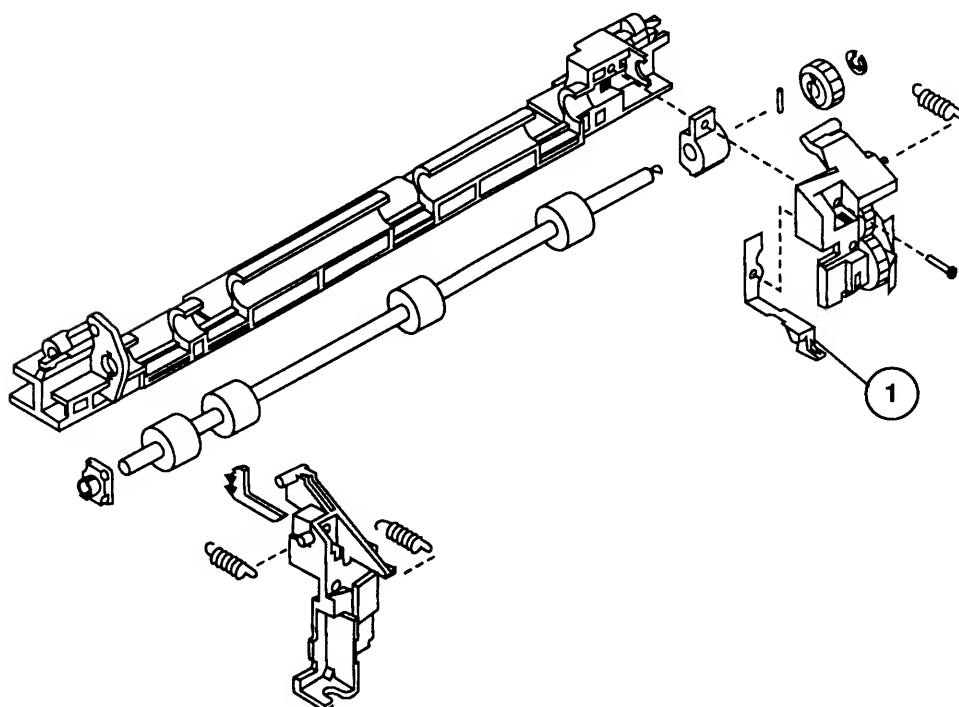

Figure 19
□ FACE-DOWN DELIVERY ASSEMBLY (Figure 19)